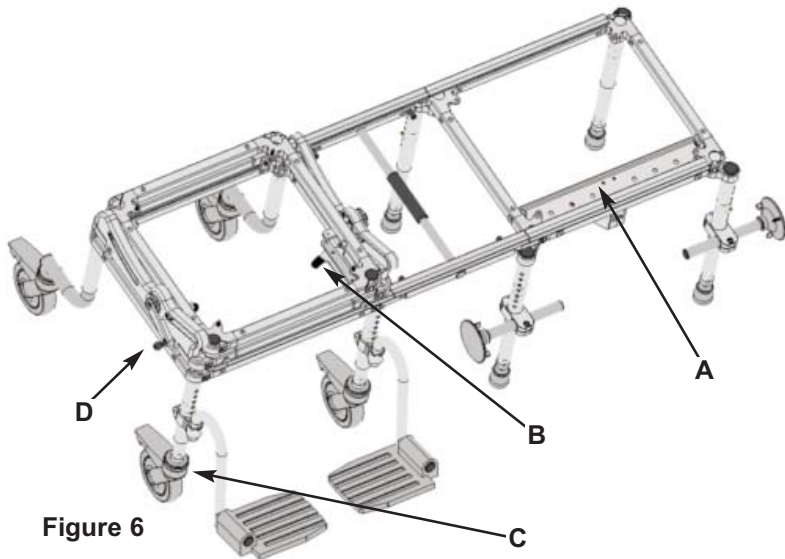

Figure 6
**Reconfigure the multiCHAIR 6000Tilt, 6200Tilt, 6000Tilt P1, and 6000Tilt P2** with the Tub Section on the user's left side (Refer to Figures 6 and 7) The roll-in section and tub section frames are identical. To change slide direction do the following: